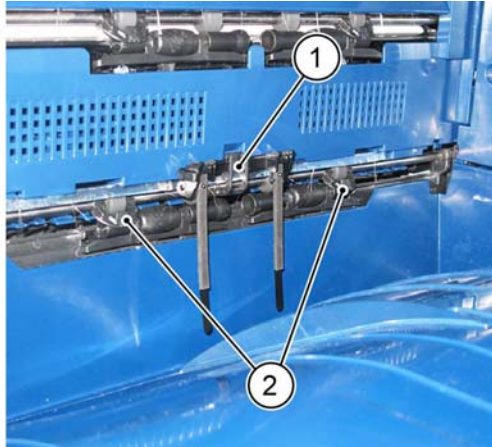

Figure 1 Weight assembly removal
1. Disengage the hooks, then remove the paper exit 1 weight assembly, (1), Figure 1.